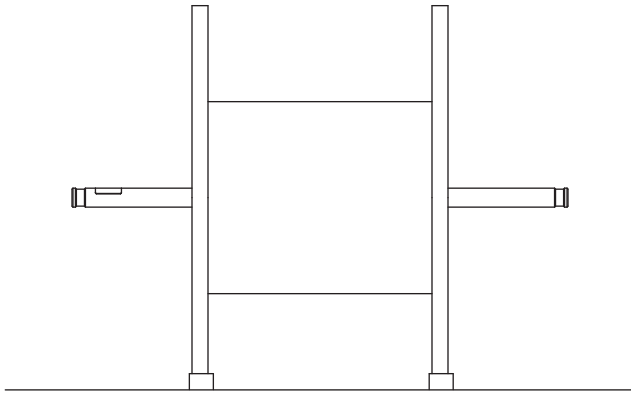

Figure 1.
3. Insert the spindle through the arbor holes of the cable reel and center it about the reel's width. (Fig. 1)